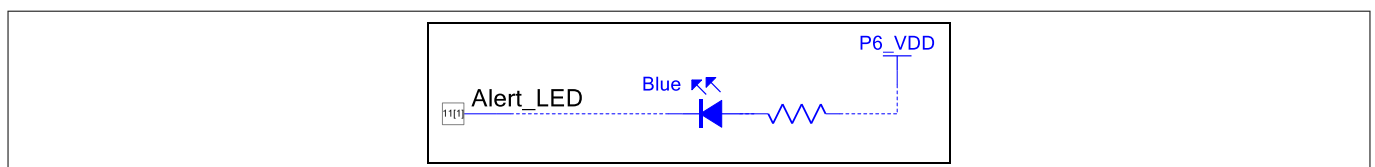

Figure 23 An output pin with off-chip components
- Tip:** For a pin, if you enable **External terminal** you can add external “off-chip” Components to a design. External Components on the schematic are included for descriptive purposes only; they have no effect on the generated code. Off-chip Components are optional, but can assist the hardware design team understanding how the design works. You can also add text boxes to a design with descriptions. Figure 23 shows how you could enhance the design for the Alert LED. In this case, the off-chip components were configured with **Instance_Name_Visible** unchecked. The resistors were configured with the **Value** field left blank. The power terminal was configured with the **Supply_Name** set to P6_VDD.